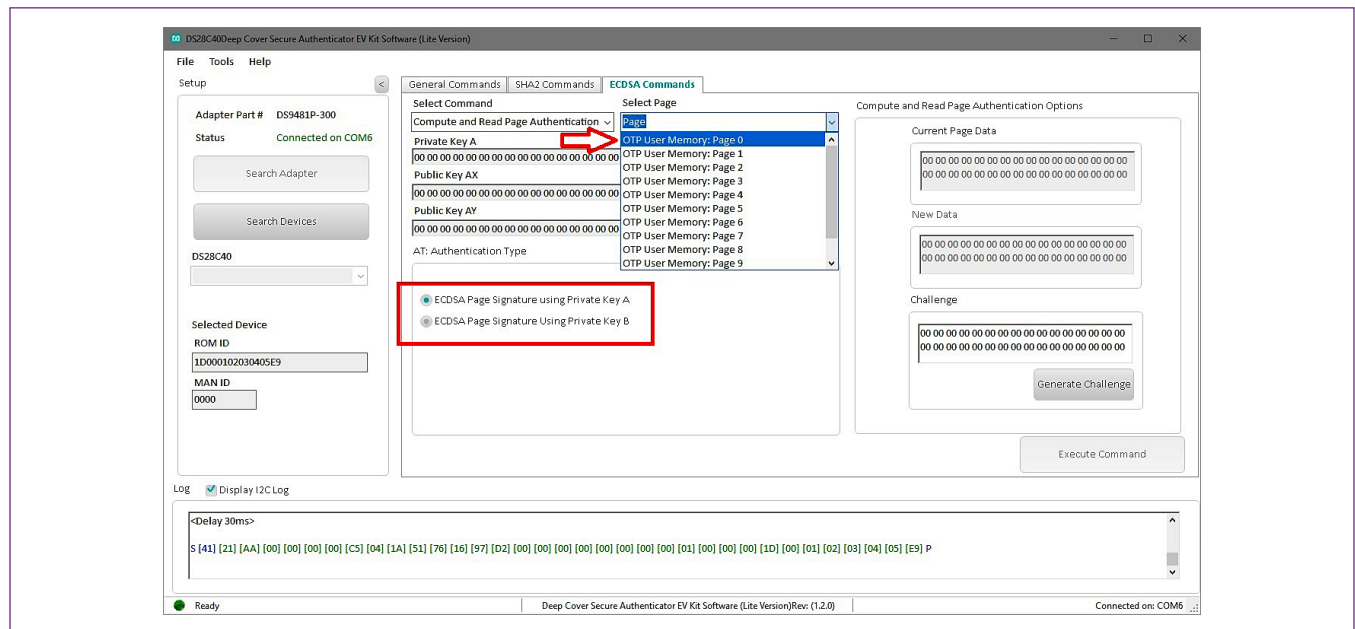

Figure 27. Selecting Page and Key
- From the **Select Page** drop-down menu, select the desired page and public key (Figure 27).
- From the **AT: Authentication Type** combo box, select the private key (Figure 27).